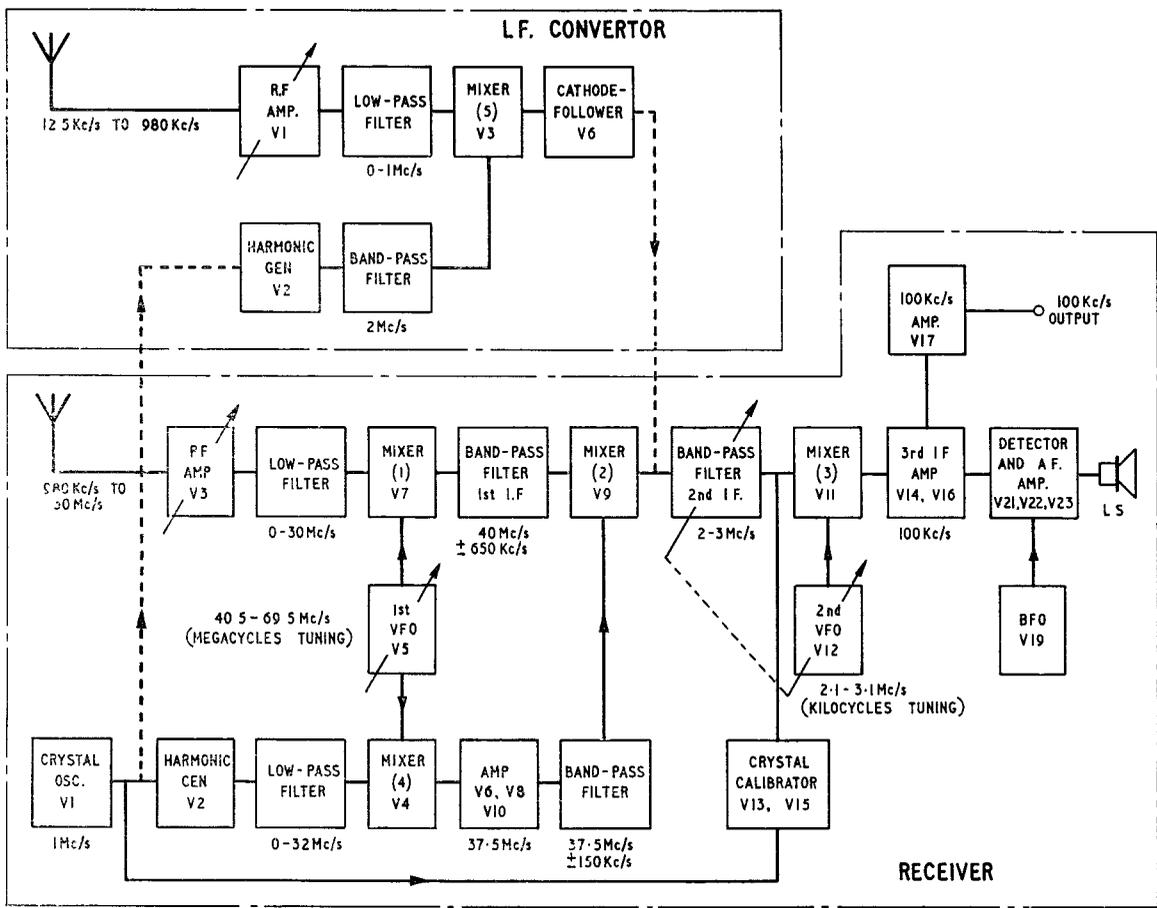

Fig. 2. Block diagram of receiver and I.f. converter
14. A block diagram of the receiver circuit is given in fig. 2. The first v.f.o. unit comprises, r.f. amplifier (V3), first v.f.o. (V5) and mixer-1 (V7). The low-pass filter is also contained within the unit and is housed in an adjacent screened compartment. Three controls are fitted to the unit, they are the AE. TUNE, AE. RANGE MC/S and MEGACYCLES. The MEGACYCLES control is coupled to the MEGACYCLES dial by means of a 63-link length of chain. The cores of the six aerial coils L4-9 are accessible through the top of the chassis.
27. The receiver circuit is briefly described with the aid of the block diagram in fig. 2. A detailed explanation of the receiver circuit is given in Part 4, Chap. 1.